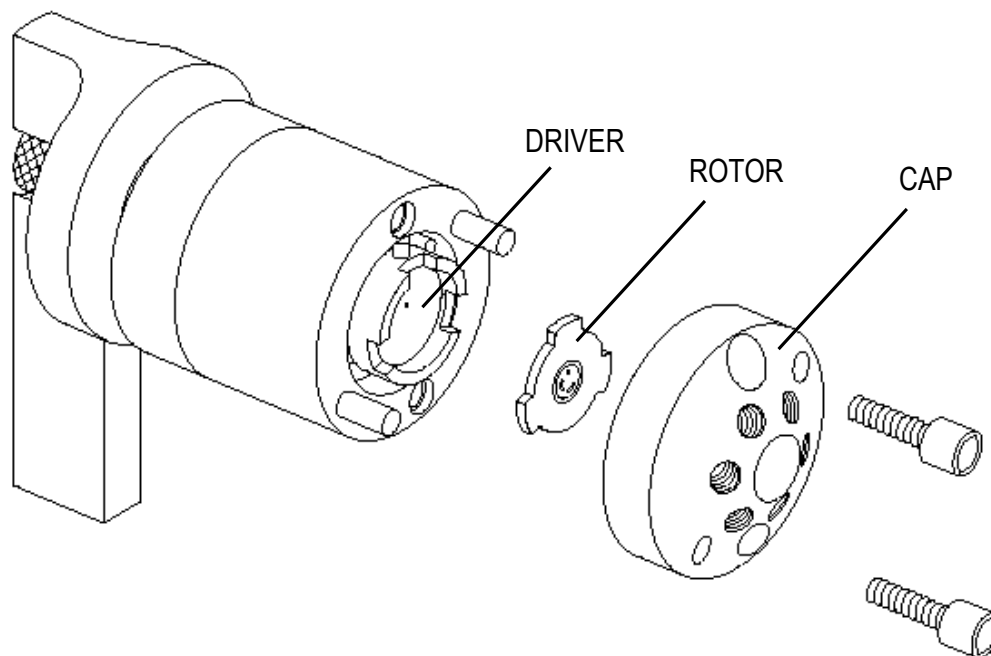

Figure 6 DIV-1 Valve Exploded View
6.1 Disassembly (Refer to Figure 6)